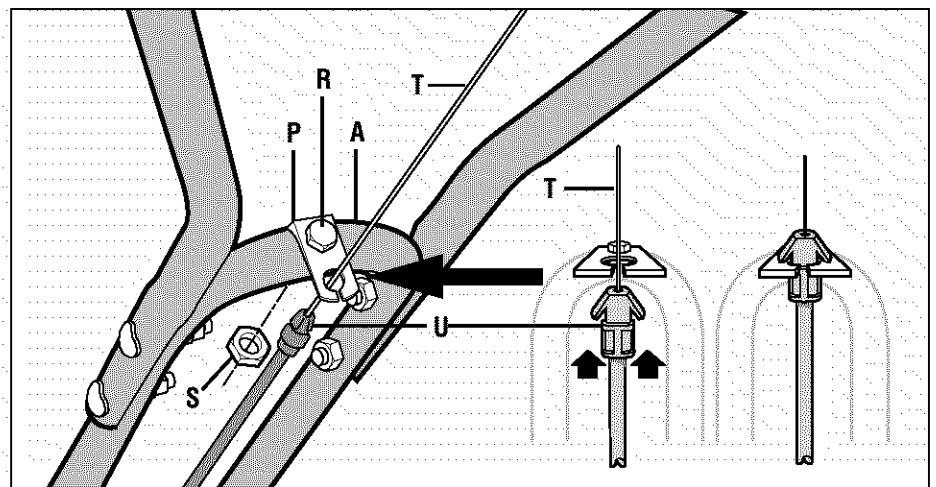

Fig. 2-4: Installing forward clutch cable bracket and cable.
| 1 | Bracket, forward clutch cable (see P, Fig. 2-4) |
1. Attach the forward clutch cable bracket (P, Fig. 2-4) to the handlebar support (A) with a 1/4"-20 x 1-1/4" hex hd. screw (R) and 1/4"-20 hex locknut (S). Tighten securely.
2. Carefully unwrap the forward clutch cable (cable without an attached knob) from its shipping position and slide the thin cable wire (T, Fig. 2-4) into the slot in the cable bracket. Push the cable connector (U, Fig. 2-4) up through the hole in the bracket until the groove in the connector snaps into place.